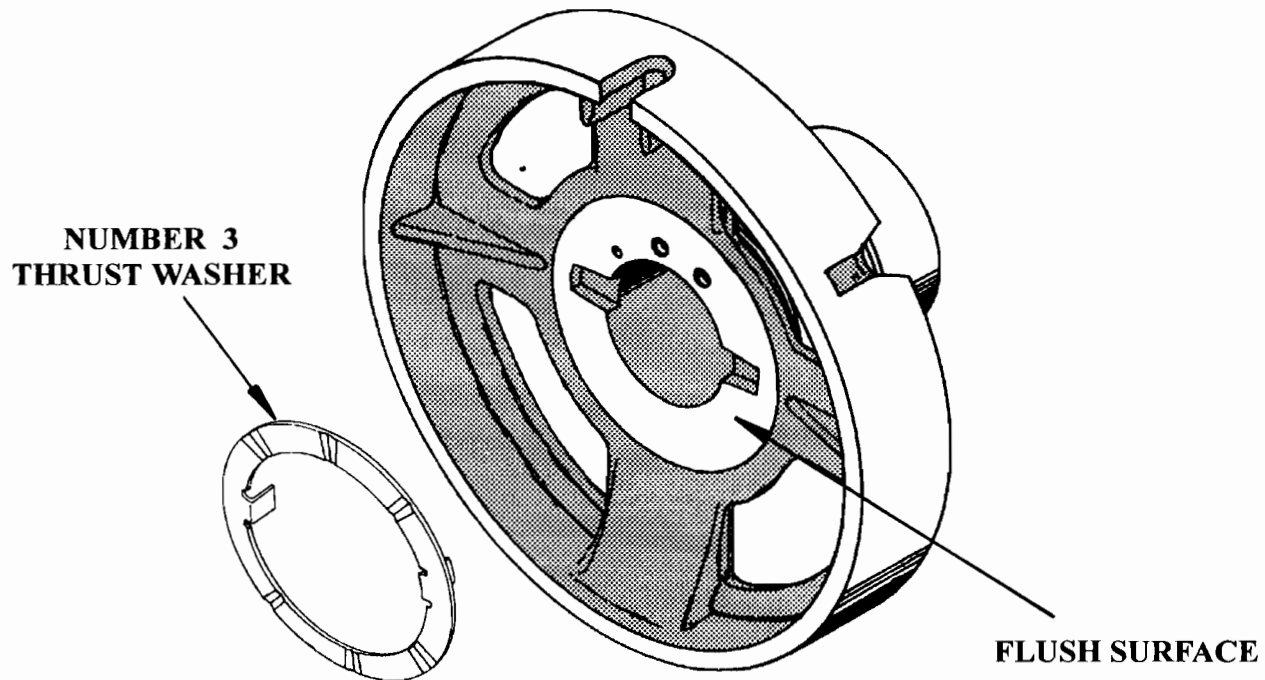
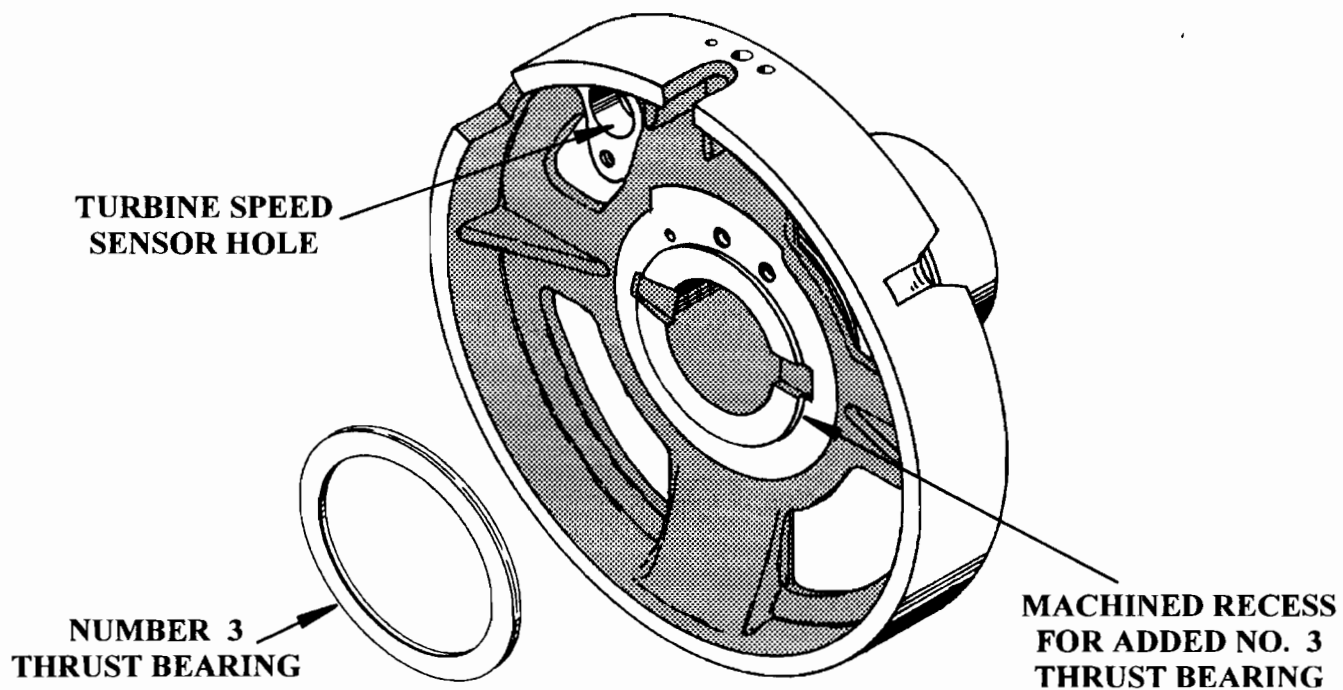

Figure 17
Figure 18
- (4) **CENTER SUPPORT** - When the "Snap Shell" was introduced in 1993, the number 3 thrust washer was eliminated (See Figure 17), and number 3 thrust bearing was added, as shown in Figure 18. The addition of the number 3 thrust bearing required machining the surface deeper to accommodate the bearings added thickness (See Figure 18).
1. Machined recess for added number 3 thrust bearing (See Figure 18).
3. Machined hole for turbine speed sensor getting ready for 4R55E (See Figures 18 and 20).
- (5) The new design level center support **CANNOT** be used in **ANY** previous models, unless updated with **ALL** of the parts listed above (See Figures 18 and 20).
- (6) The previous design center support **CANNOT** be used forward into **ANY** model that is using the "Snap Shell" (See Figure 17).
- (7) The new design forward clutch drum **WILL** retro-fit back on **ALL** previous models.